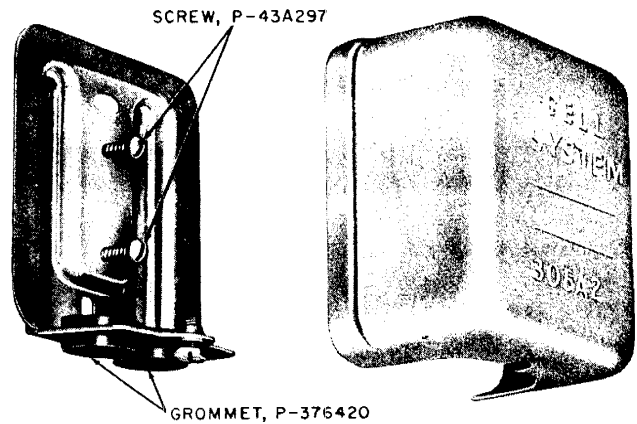

Fig. 11—305A2 Protector Mounting
- 3.07** The 305A2 Protector Mounting consists of a metal base and a removable metal cover. It is provided with two screws for fastening the protector to the metal base (Fig. 11).